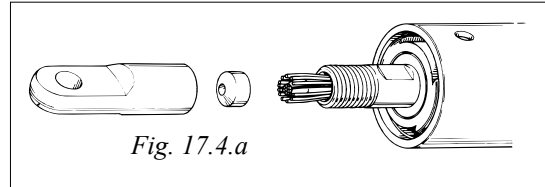

Fig. 17.4.a
6. Cut all wire strands protruding outside the wedge at the bend approx. 5 mm (3/16") of the strands. See fig. 17.4.a